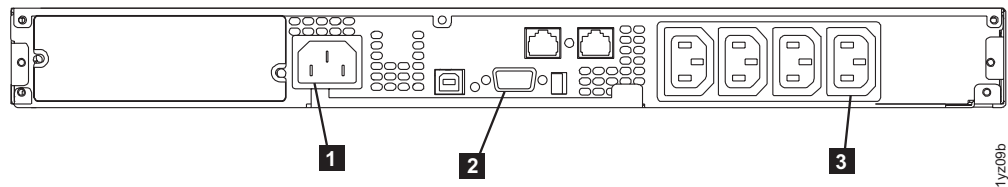

Figure 15. 2145 UPS-1U (rear view)
7. At the back of the 2145 UPS-1U, plug the 2145 UPS-1U main-power connector into the power socket (1 in Figure 15). The 2145 UPS-1U is in standby mode, so all indicators are off.